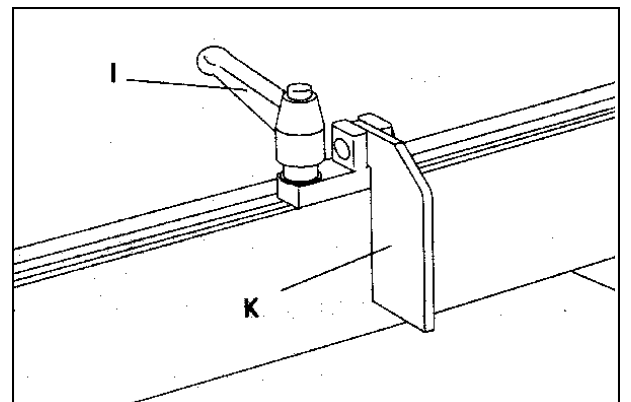

FIGURE 23
4. Slide workstop (K) to desired position on fence and tighten locking screw (I), as shown in Figure 23.